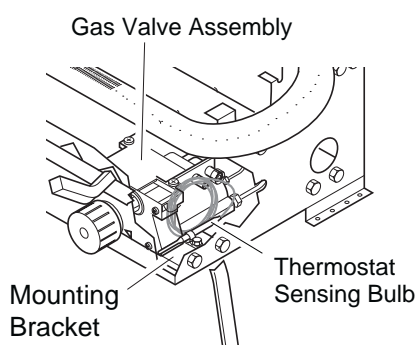

Figure 28 - Location of Gas Valve Assembly and Thermostat Sensing Bulb
1. Remove logs. Locate the gas valve assembly and thermostat sensing bulb (see Figure 28).